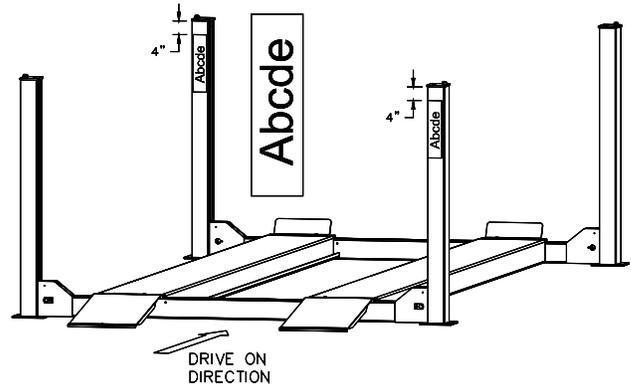

Fig 22 – Decal Placement
- 47) Apply decal 4" from top of columns, **Fig 22**.